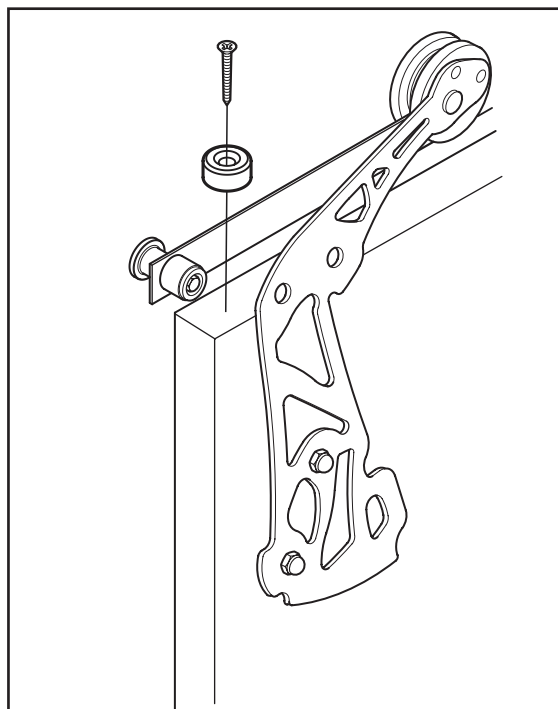

Figure 10
19. Place the Anti-Jump block on the top of the door (Figure 10). Using a drill with a phillips bit, install the the block with the 1" phillips screw (provided).